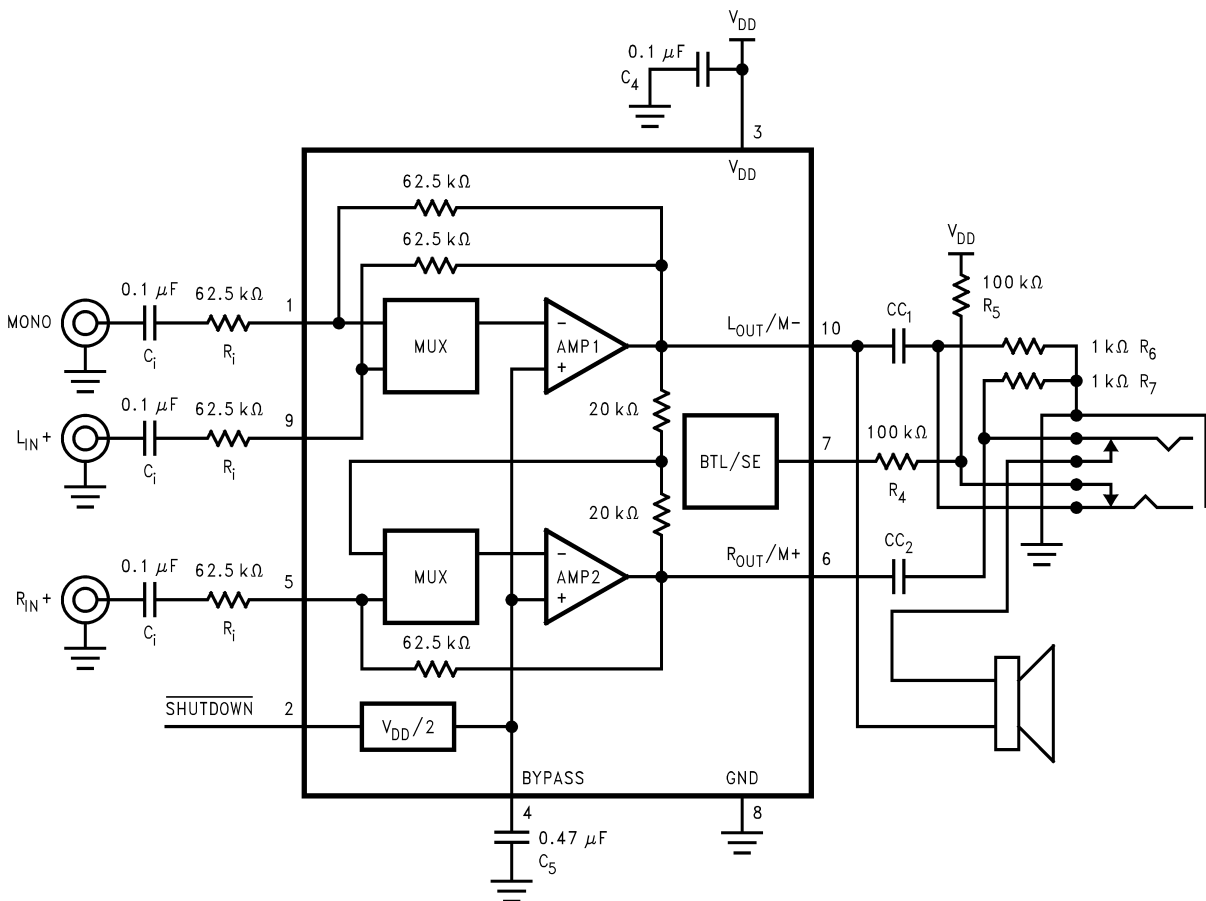

Figure 1. Typical Audio Amplifier Application Circuit
- PSRR (@ 1kHz, $2.9\text{V} \leq V_{DD} \leq 5.1\text{V}$, (Figure 1))
The following specifications apply for the circuit shown in Figure 1 unless otherwise specified. Limits apply for T_A = 25°C. ⁽¹⁾
The following specifications apply for the circuit shown in Figure 1 unless otherwise specified. Limits apply for $T_A = 25^\circ\text{C}$.⁽¹⁾
The following specifications apply for the circuit shown in Figure 1, $R_L = 4\Omega$, and a measurement bandwidth of 20Hz to 80kHz, unless otherwise specified. Limits apply for $T_A = 25^\circ\text{C}$.⁽¹⁾